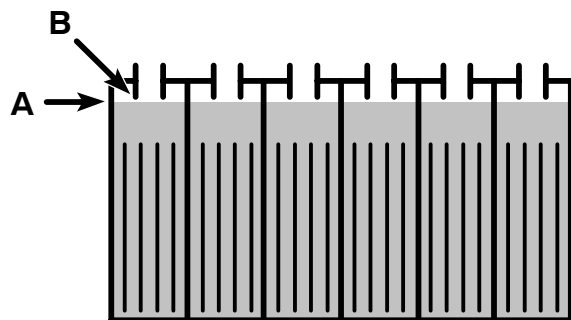

FIG. 32
- After charging, check the electrolyte level (A) again. The level should be approximately 1 cm from the bottom of the fill-port (B) (Figure 32). Add distilled water if needed. DO NOT OVERFILL.